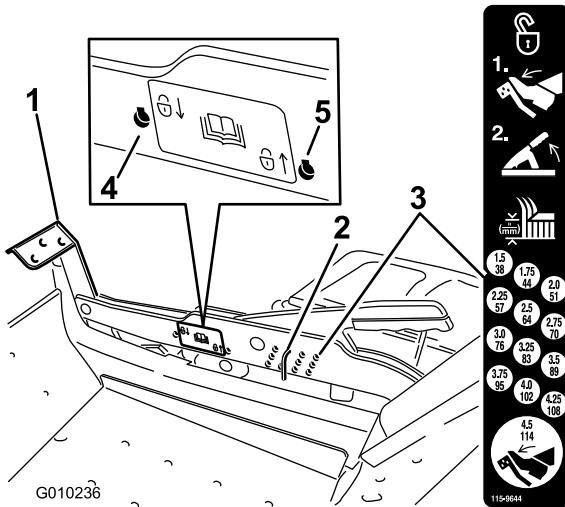

Figure 25
1. Push on the deck lift pedal with your foot and raise the mower deck to the transport position (also the 4-1/2 inch (114 mm) cutting height position) (Figure 25).
2. To adjust, remove the pin from the height-of-cut bracket (Figure 25).
3. Select a hole in the height-of-cut system corresponding to the height-of-cut desired and, insert the pin (Figure 25).
2. Remove the pin from the height-of-cut bracket (Figure 25).
3. Select a hole on the lock decal and insert the pin (Figure 25).